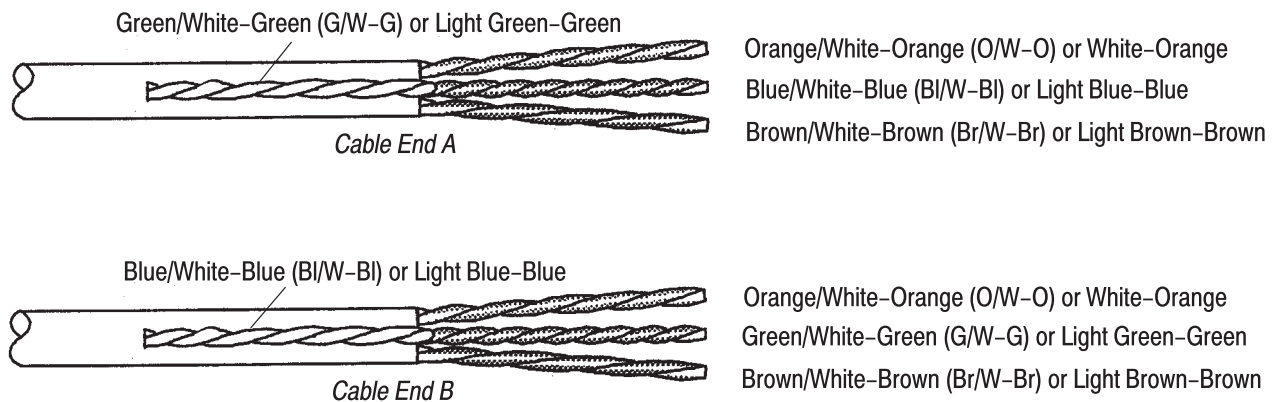

Figure 4
- Changed Cable End B colors in Figure 4
1. While firmly holding the cable jacket next to the stripped end, position the pairs as shown in Figure 4, folding the indicated pair back over the jacket.